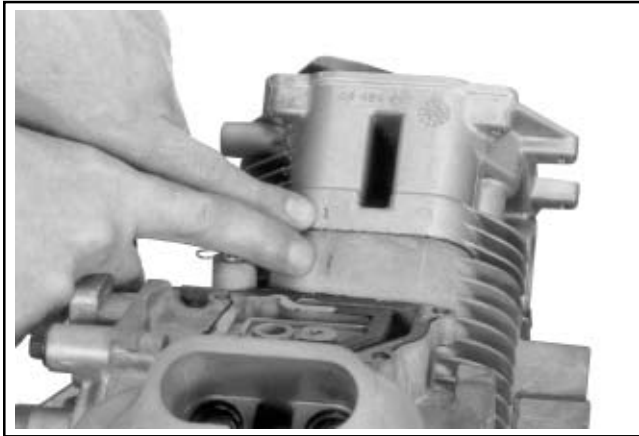

Figure 11-36. Match Numbers on Cylinder Barrel and Head.
NOTE: Hydraulic lifters should always be installed in the same position as before disassembly. The exhaust lifters are located on the output shaft side of the engine while the intake lifters are located on the fan side of the engine. The cylinder numbers are embossed on the top of the crankcase and each cylinder head. See Figure 11-36.
NOTE: Match the numbers embossed on the cylinder heads and crankcase. See Figure 11-36.
5. Install the cylinder head. Match the numbers on the cylinder heads and the crankcase. See Figure 11-36. Make sure the head is flat on the gasket and dowel pins.